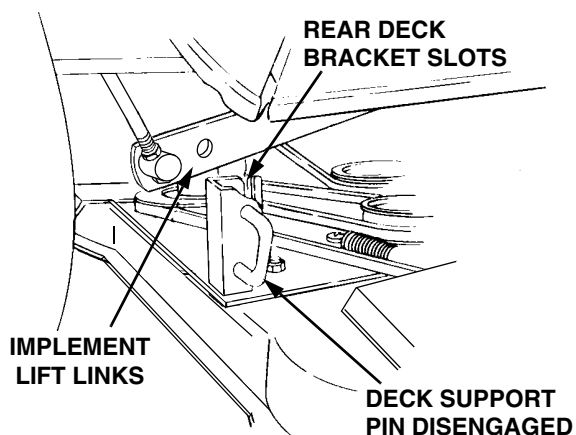

Figure 33
- If not already done, pull the deck support pins outward, turn downward and release so both spring-loaded pins are held in the disengaged position against the outer surface of the deck brackets (See Figure 33).